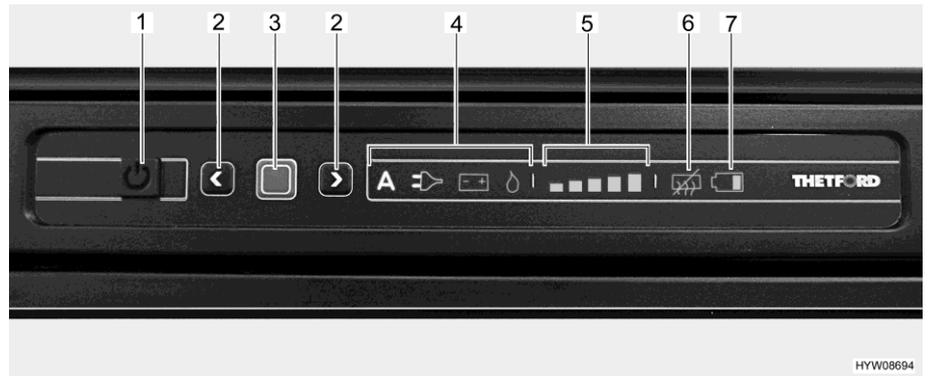

Fig. 239 LED operating panel (Thetford refrigerator)
- Press and hold the On/Off button (Fig. 239,1) for 1 second. The button lights up green. To save energy, after approximately 10 seconds the display is dimmed.
- Press confirmation button (Fig. 239,3). The operating mode previously selected is displayed.
- Press and hold the confirmation button (Fig. 239,3) for about 2 seconds. The operating mode symbols flash.
- Manual power selection: use the arrow keys (Fig. 239,2) to select the desired energy source.
- Automatic power selection (only version with automatic power selection): use the arrow keys (Fig. 239,2) to select the operating mode "A".
- Confirm your selection with the confirmation button (Fig. 239,3).
- Press confirmation button (Fig. 239,3) again. The cooling level indicator (Fig. 239,5) flashes.
- To change the setting, press the arrow keys (Fig. 239,2) until the desired setting is displayed.
- Press and hold the On/Off button (Fig. 239,1) for about 2 seconds. All lights go out. Refrigerator is switched off.
Refrigerating temperature control After switching it on, the refrigerator automatically selects the previously selected thermostat position. This position can be adjusted manually by using the arrow keys (Fig. 239,2). It takes a few hours till the refrigerator reaches its normal operating temperature. When changing over to another operating mode, the thermostat setting is kept.